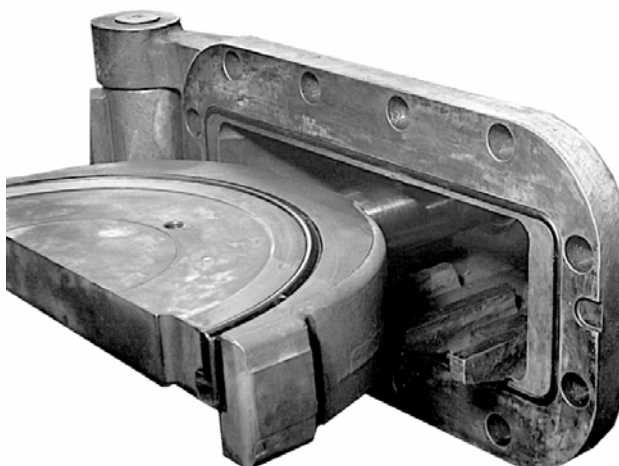

Figure 4-6. Ram Out of Door Cavity
5. Slowly apply reduced closing hydraulic pressure until the ram is out of the BOP door cavity as shown in Figure 4-6.